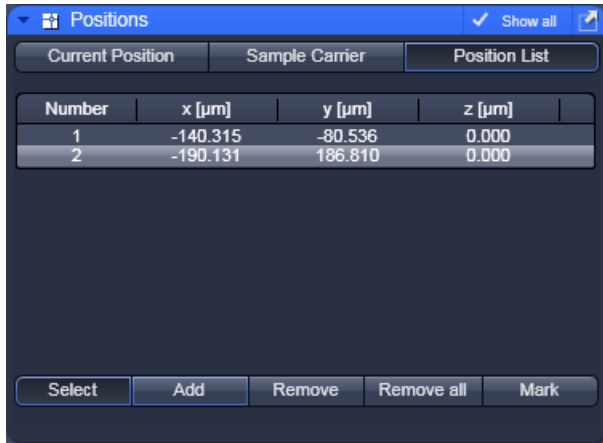
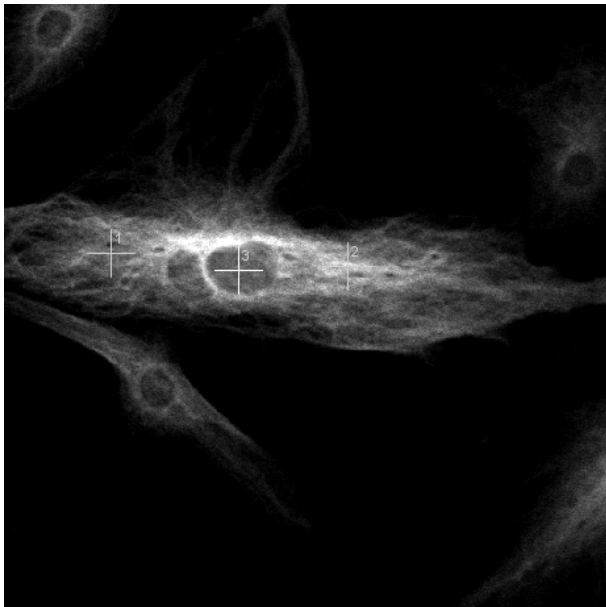

Fig. 299 Position list with 3 positions selected
Fig. 300 LSM scan image with 3 selected positions
- Move the cursor to the desired position in the scan image (drag and drop). Press the **Add** button to add the position marked with the crossline to the **Positions** list (Fig. 299). A crossline is set at the selected cursor position in the image (Fig. 300). To select further positions click at the appropriate position in the image and then press **Add**. If more than one position is selected the crosslines are getting current numbers. The Position list displays the numbers and coordinates of the positions in the **Number**, **x (µm)**, **y (µm)** and **z (µm)** display boxes.
- Press the **Mark** button to fix the crosslines as overlay elements in the scan image (Fig. 300). The crosslines will also stay visible in the scan image if the **Select** button is deactivated. If you call up an image later you have to activate the overlay function and a line drawing element to display the crosslines.
(4) Hysteresis correction of Scanning mirrors